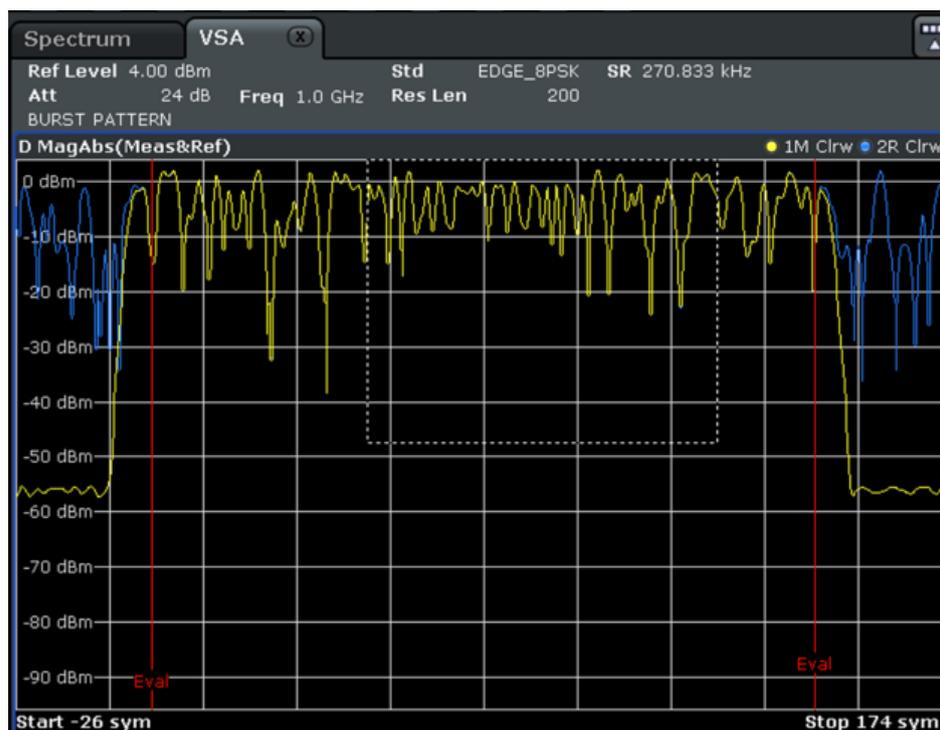

Fig. 5-9: R&S FSV-K70: Zooming
4. Select "Clear Write" as the Trace Mode and "Evaluation Ref". This adds a second trace to your result display. This trace is the ideal reference signal that can now be compared to the measurement signal (see figure 5-9).
5. To view the traces in more detail, enlarge the screen using the "Split/Maximize" key () , and zoom into the display using the  icon in the toolbar (see the dotted rectangle in figure 5-9).